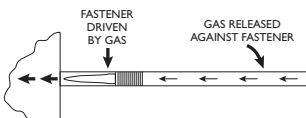

Fig. 3-14 Direct-acting operating principle.
- Direct-acting, in which the expanding gas acts directly on the fastener to be driven into the work (Fig. 3-14)